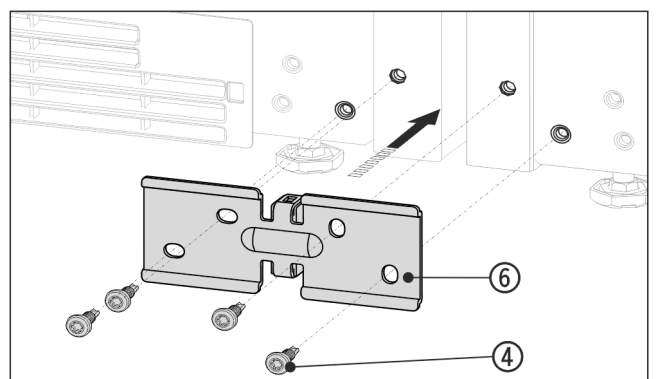

Fig. 18 Example illustration
- ▶ Slide the bracket *Fig. 18 (6)* on with the spacer between the appliances and screw in loosely with the 4 screws *Fig. 18 (4)*.